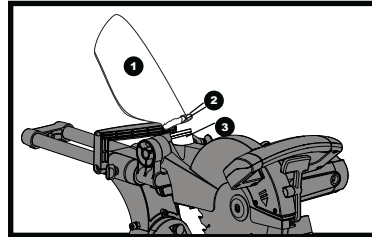

Fig 6
- 1) Squeeze the metal collar wings (2) of the dust bag (1).
- 2) Place the dust bag neck opening around the exhaust port (3), and release the metal collar wings. (See fig. 6)